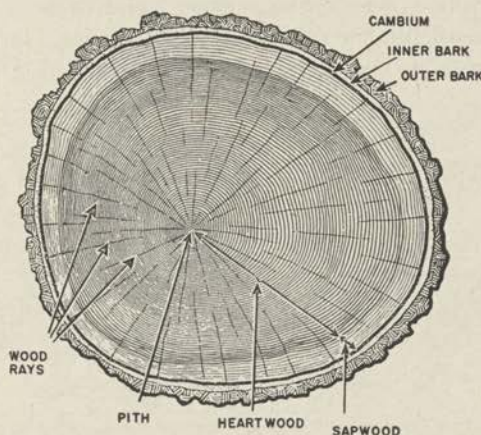

FIGURE 1.—Cross section of log.
4. Structure of wood.—Figure 1 shows a cross section of a log and the nomenclature of its parts. By growth in the cambium, a tree adds a layer of wood each year, called an annual ring, on the outside of those previously formed, which increases the diameter of the trunk and pushes the bark outward.